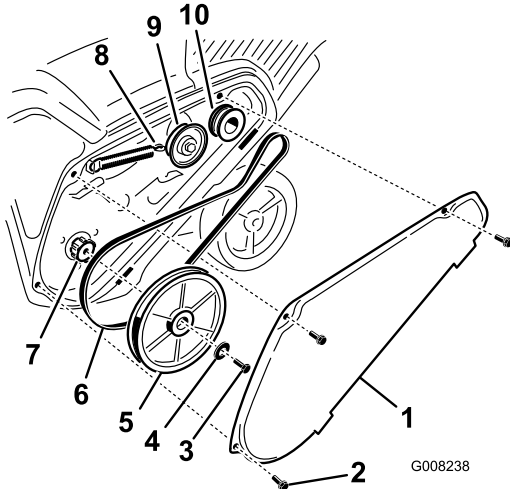

Figure 37
1. Remove the drive belt cover by removing the 3 bolts as shown in Figure 37.
Note: Route the new drive belt first around the engine pulley, then the idler pulley, and finally around the loose rotor pulley positioned just above the rotor shaft (Figure 37).
6. Install the rotor pulley onto the rotor shaft (Figure 37).
7. Install the curved washer and the rotor pulley bolt and tighten them securely (Figure 37).
2. Unhook the brake spring from the idler arm to release the belt tension (Figure 37).
3. Remove the screw and curved washer that holds the rotor pulley (Figure 37).
4. Remove the rotor pulley and the drive belt (Figure 37).